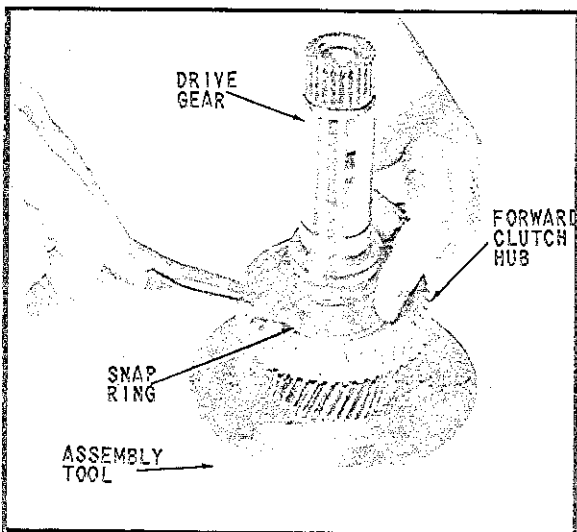

Fig. 45 Installing Clutch Hub Snap Ring
35. Invert the parts referred to in step 34 and install snap ring in the groove provided, (Fig. 45). Tap ring after assembly with suitable tool to insure full seating in groove.